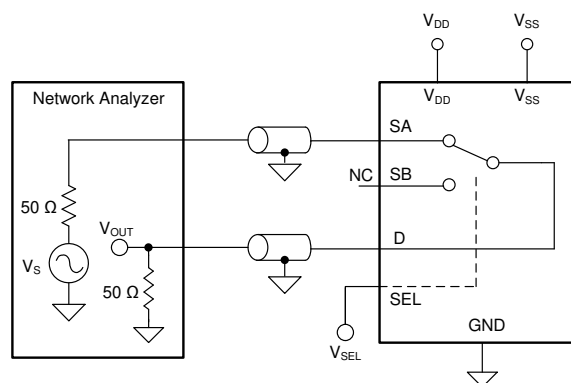

Figure 7-10. Bandwidth Measurement Setup
Bandwidth is defined as the range of frequencies that are attenuated by < 3 dB when the input is applied to the source pin (Sx) of an on-channel, and the output is measured at the drain pin (D) of the TMUX6136. Figure 7-10 shows the setup used to measure bandwidth of the mux. Use Equation 4 to compute the attenuation.